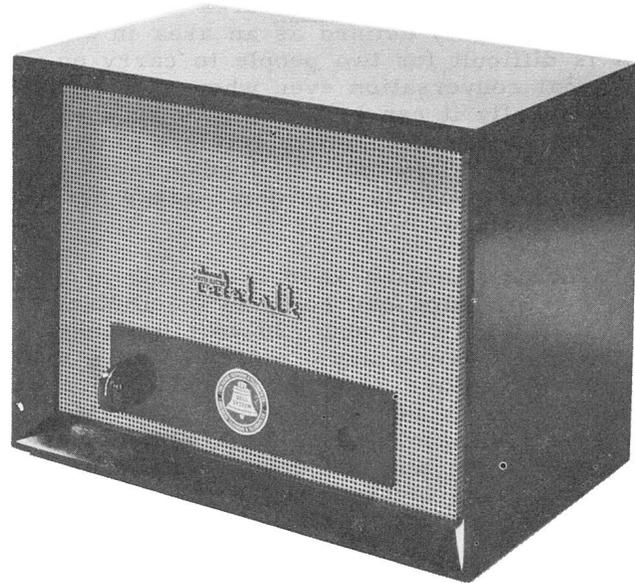

Figure 58 - 103-2 Loudspeaker Set
4.01 The 103-2 loudspeaker set is a self-contained amplifier and speaker mounted in a simulated walnut finish bakelite cabinet. It measures 8-5/8" wide, 6-5/8" high, and 5-3/8" deep, and has a gold-tone perforated metal grill in front and back. It comes with an 8-foot 110-125-volt, 60-cycle ac power cord; also, a 6' 6" two conductor cord for telephone termination of a 600-ohm line. Power drain is 25 watts and maximum output is 1-1/2 watts. (Figure 58)